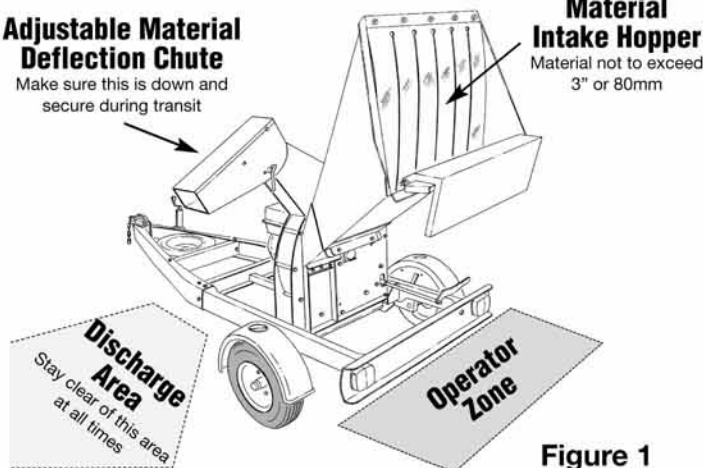

Figure 1
- 8) When unit is in operation, approach chipper from the operator zone side. (See Figure 1) **KEEP CLEAR OF DISCHARGE AREA. Pay attention to discharge direction.**
- 2) **WARNING:** Make sure discharge chute is tightened, secure and in the down position before towing. (See Figure 1)